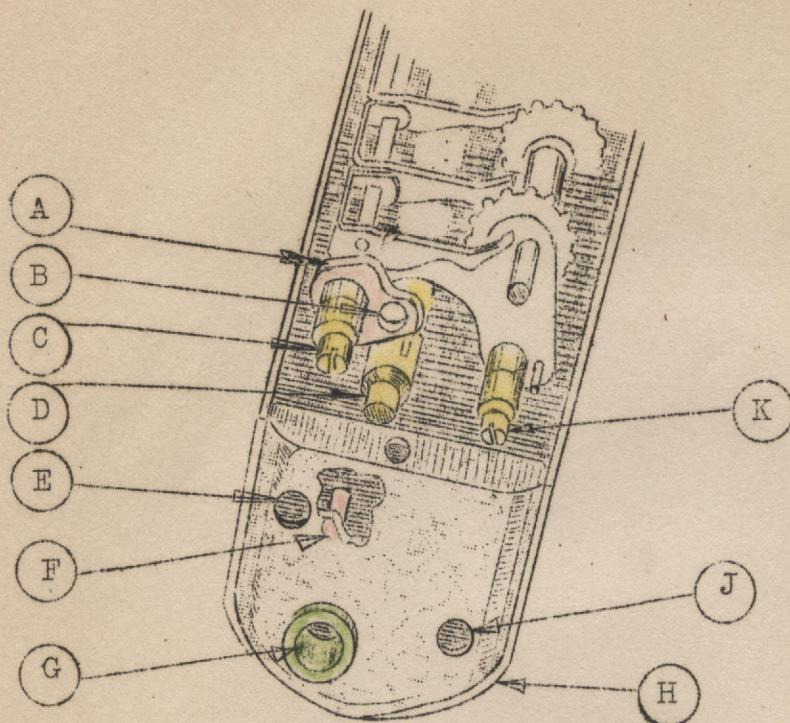

FIG. 4
(14) Install the keyboard in the machine, as shown on Plate 31, Supplement C, and insert screw (H) by positioning the mechanism as shown in Figure 3, after which reposition guide blank (A) to its original position. Position the mechanism as shown in Figure 4, and insert the proper screw in hole (C) after which restore guide blank (B) to its original position. Install the two front keyboard screws.
(15) Locate spring (A) on post (E) as shown. Position the end of the pivot bar (C) over end (B) of the spring with lug (D) located at (G) under post (E). Insert end (F) of the spring in the slot of the cross frame as shown.